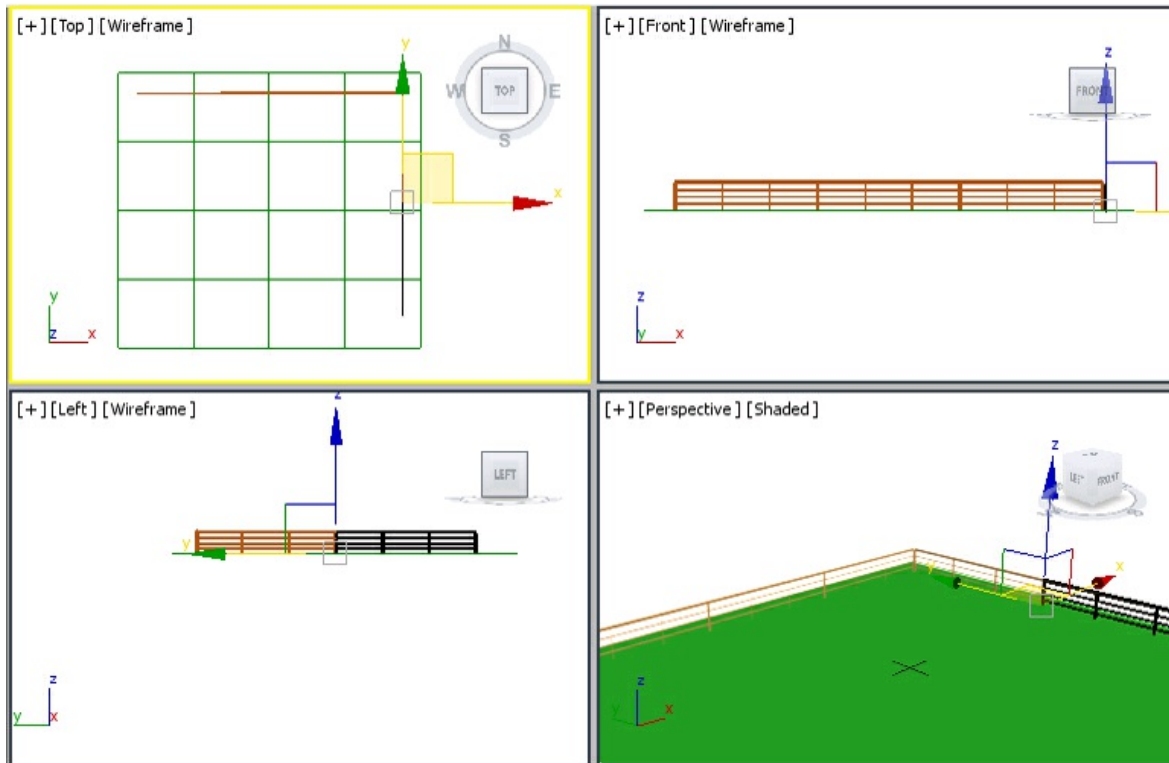

Figure 4-59 The railing03 geometry after alignment
19. In the **Clone Options** dialog box, make sure the **Copy** radio button is selected. Set the value in the **Number of Copies** spinner to **1** and enter *railing03* in the **Name** text box. Next, choose the **OK** button; *railing 03* is created, as shown in Figure 4-59.